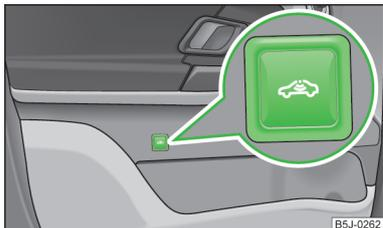

Fig. 35
- > Press the » Fig. 35 button in the driver's door.